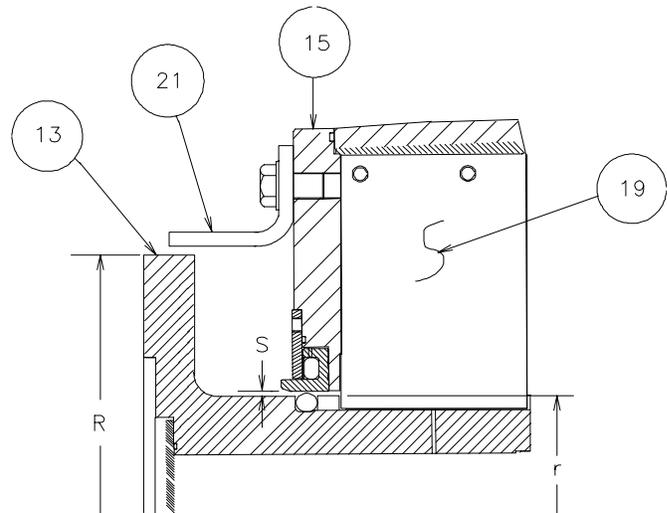

Figure 6
- 2.3.3 Check the initial alignment accuracy by measuring the radial clearance "S" between the splined hub (24), and the side plate (13). Several readings should be taken around the entire circumference of the hub, see Figure 6. The specific coupling assembly drawing shows the upper and lower limits of the clearance.